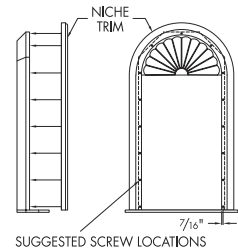

FIGURE 5
5. Secure the Niche trim to the tub using finishing nails at the locations suggested (**SEE FIGURE 5**). The finishing nails should be approximately 7/16" from the inside edge of the tub. Make sure that the trim does not move when driving the nails. Wipe off all excess adhesive.